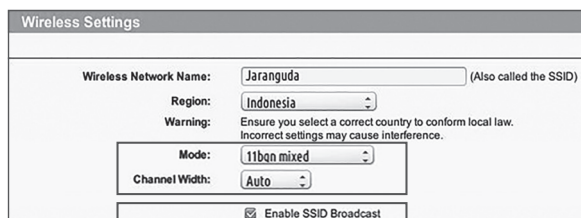

Fig. 1
2. Make sure your router 802.11 mode of wireless setting is b/g/n mixed. (See Fig. 1)
3. Make sure your router channel/ band width of wireless setting is Auto or 20M or 20M mixed 40M. (See Fig. 1)
4. Make sure your router Enable the SSID Broadcast function when you connect the machine with the APP. And you can close it after you connect successfully. (See Fig. 1)